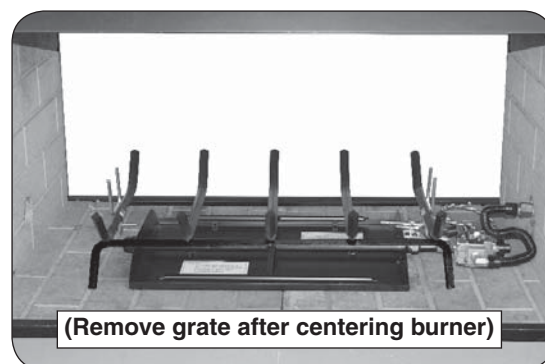

Fig. 19-4 Position grate
2. Position the grate over the burner pan (in fireplace). Ensure the assembly is centered from left to right. See Fig. 19-4.